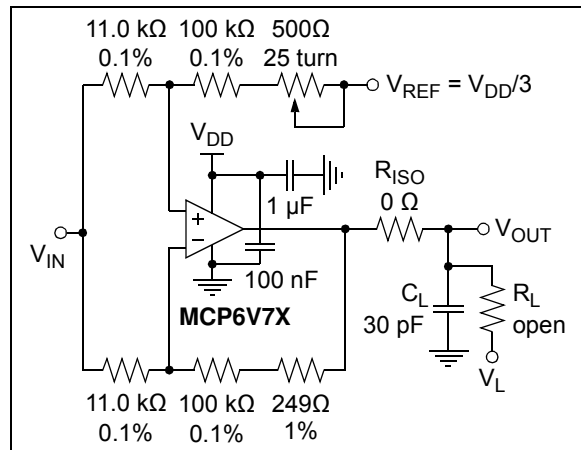

FIGURE 1-6: Test Circuit for Dynamic Input Behavior.
- Note 1:** These parameters were characterized using the circuit in Figure 1-6. In Figures 2-40 and 2-41, there is an IMD tone at DC, a residual tone at 1 kHz and other IMD tones and clock tones.
The circuit in Figure 1-6 tests the input's dynamic behavior (i.e., IMD, t_{STR} , t_{STL} and t_{ODR}). The potentiometer balances the resistor network (V_{OUT} should equal V_{REF} at DC). The op amp's Common mode input voltage is $V_{CM} = V_{IN}/2$. The error at the input (V_{ERR}) appears at V_{OUT} with a noise gain of 10 V/V.